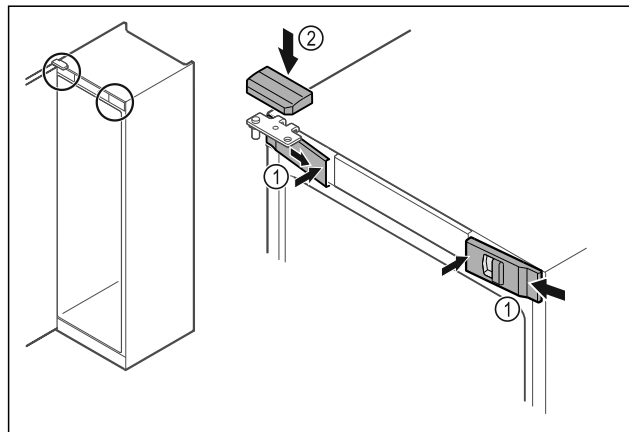

Fig. 44
- Hook in the front covers Fig. 44 (1) on the side and snap them into place on the inside.
- Snap on the top cover Fig. 44 (2) from above.